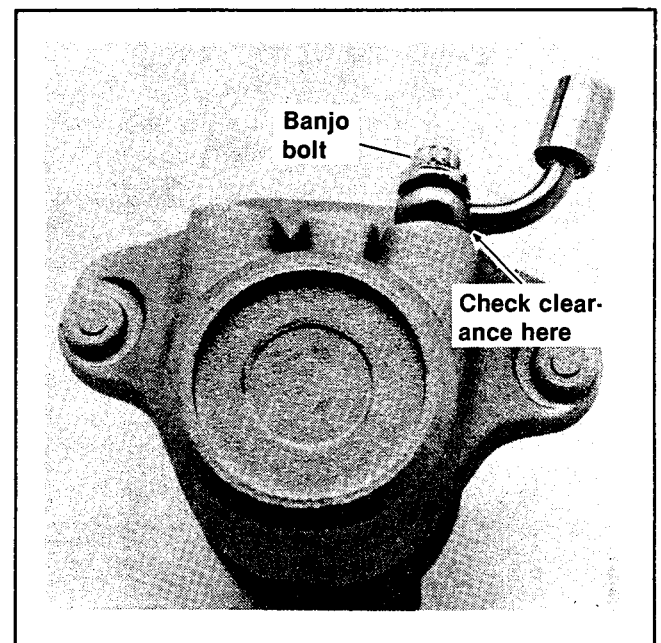

Figure 2. Rear Caliper
2. See Figure 2. Check that clearance is present between curved portion of banjo fitting and caliper.
5. Turn the banjo fitting to a forward facing position (away from lip) and check if clearance is now present at location shown in Figure 2.